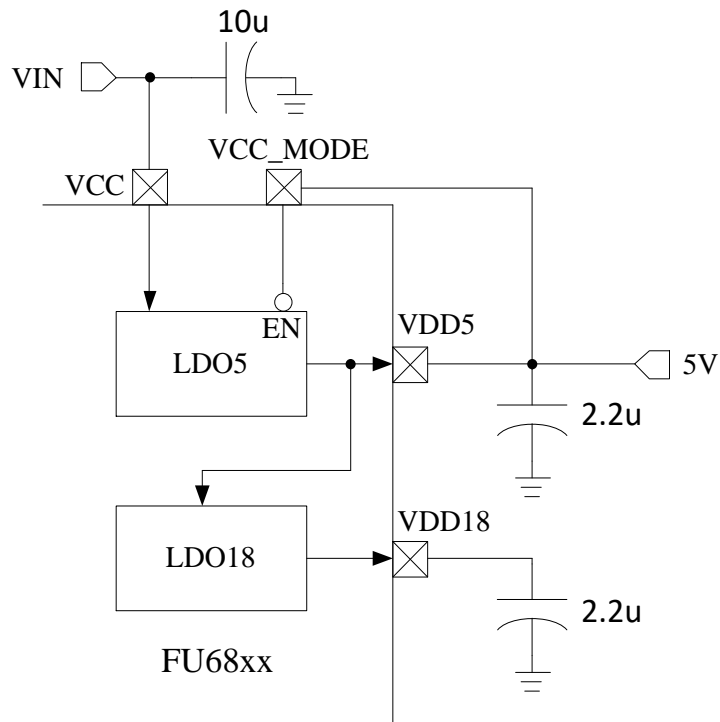

Figure 31-3 Dual-power Supply Mode
- Dual-power Supply Mode: (VCC_MODE = 1), VCC ≥ VDD5, VCC = 5 ~ 36V and VDD5 = 5V. See Figure 31-3 for details.